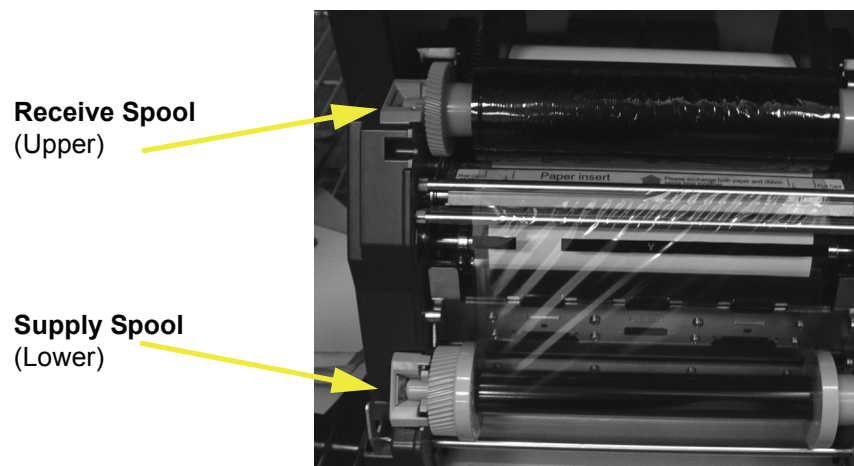

Figure 10. Ribbon Spool Placement
3. Remove the ribbon from the printer noting the placement of the receive and supply spools (see Figure 10).